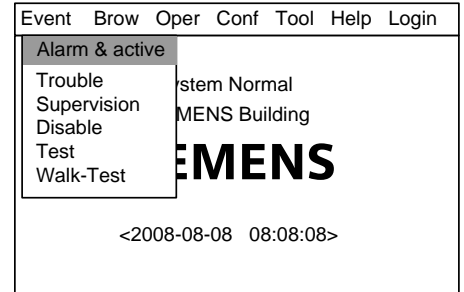

Fig.31-1
1. Press "Menu" to browse the main menu (Fig. 31-1)